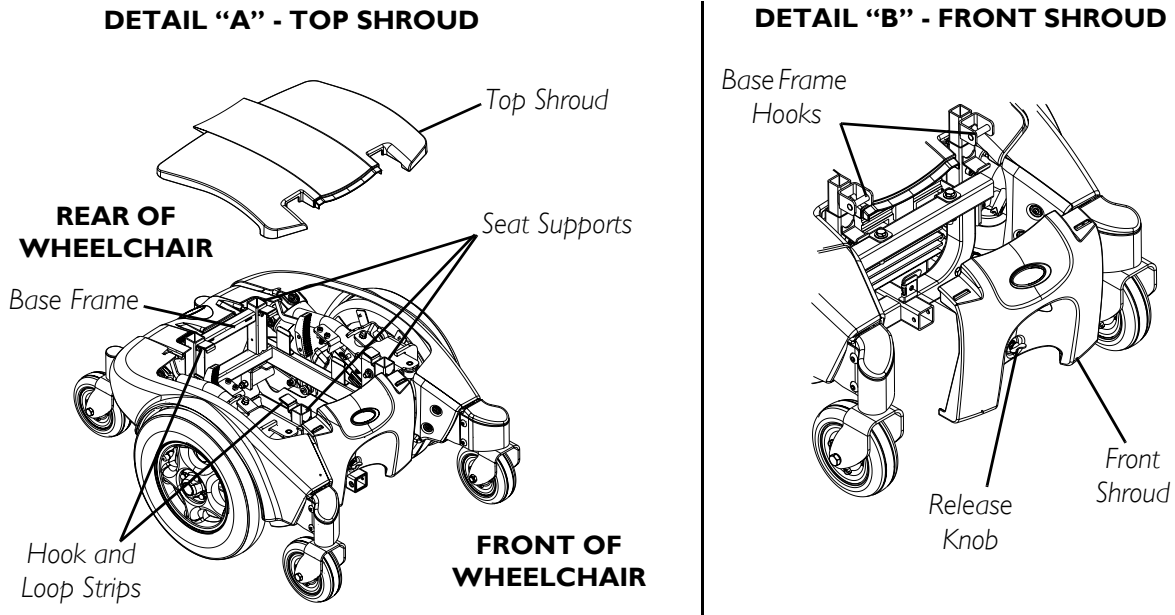

FIGURE 10.1 - REMOVING/INSTALLING THE SHROUDS
NOTE: For this procedure, refer to FIGURE 10.1.
- A. **TOP SHROUD** - Lift UP on rear edge of top shroud to release the four (4) hook and loop strips that secure the top shroud to the base frame as shown in Detail “A” of FIGURE 10.1.
- B. **FRONT SHROUD** - Turn release knob $\frac{1}{4}$ -turn to the unlocked position and lift UP to remove front shroud from base frame hooks as shown in Detail “B” in FIGURE 10.1.
- A. **TOP SHROUD** - Position top shroud on to the base frame and gently press down on top shroud to secure the four (4) hook and loop strips that secure the top shroud to the base frame as shown in Detail "A" of FIGURE 10.1.
- B. **FRONT SHROUD** - Position front shroud onto the two (2) base frame hooks. Turn release knob $\frac{1}{4}$ -turn to the locked position as shown in Detail "B" of FIGURE 10.1.